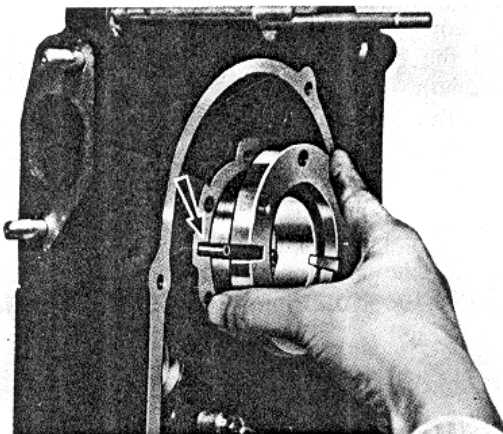

Fig. 1-34 Installing stationary gear
4. Press in the stationary gear to the housing with the main bearing replacer (49 0813 235), aligning the slot of the stationary gear flange and the dowel pin on the housing, as shown in Fig. 1-34